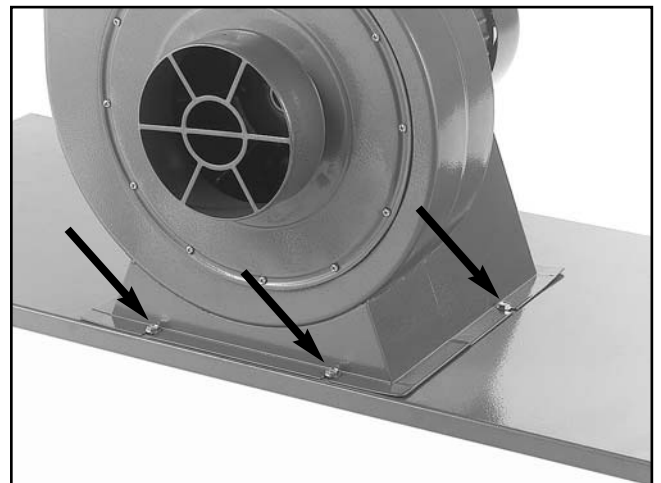

Figure 8. Motor and impeller attached to base.
2. Position the motor and impeller on the base and secure it with the flange bolts (**Figure 8**).